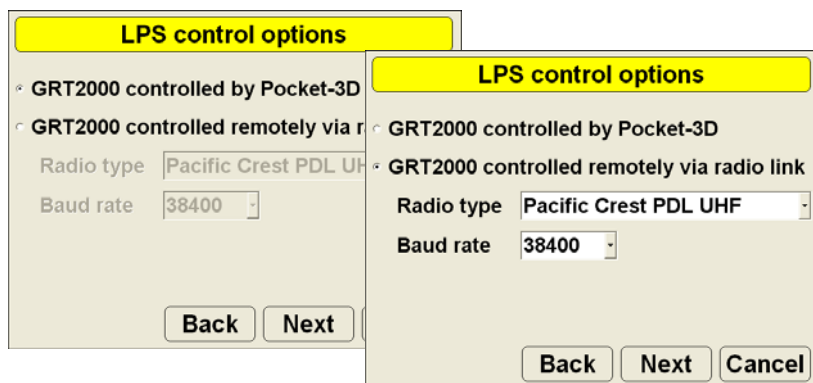

Figure 8-18. Select LPS Control Options
5. Select LPS control options and press **Next** (Figure 8-18 on page 8-20).